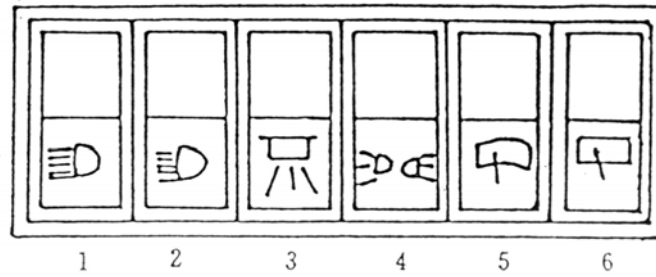

Fig.13
- Fig.13: 1. Control lever for blade lifting, left
7.3.4 Six-gang switch (Fig. 13)